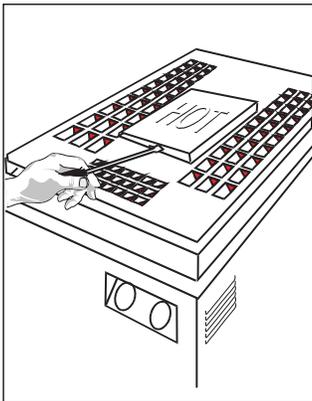

Figure 30. Removal of Top Plate
1. Remove the top plate, stamped "HOT", by slipping a fine-blade screwdriver into the slot and prying it up (see Fig. 30).